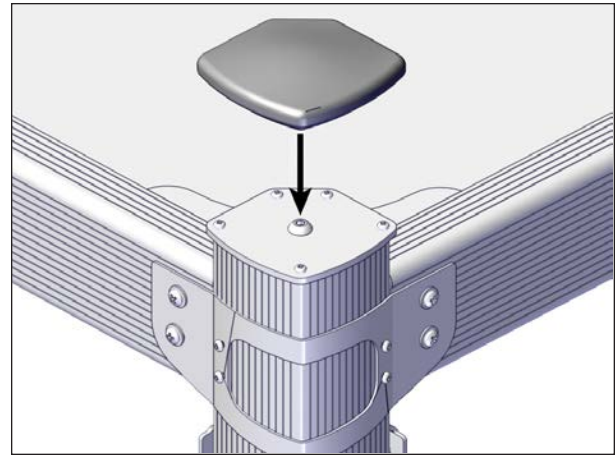

FIGURE 76: RUBBER CAP REMOVAL
2. Remove the rubber cap on top of each post, see Figure 76.